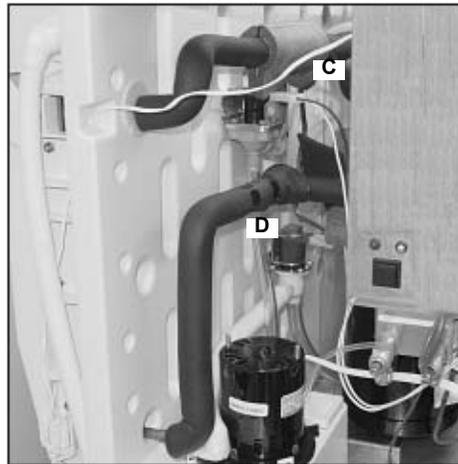

Figure 9.
6. Disconnect the electrical plug from the Water Fill Valve (C) and Water Dump Valve (D) (Figure 9).